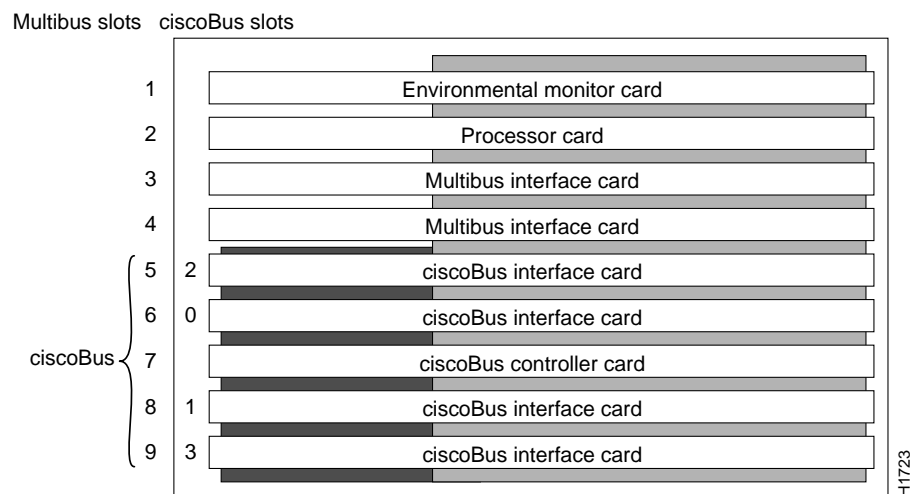

Figure 1 AGS+ Chassis Card Cage—Front View
The CSC-CCTL ciscoBus controller card is located in the center ciscoBus slot (Multibus slot 7) in the AGS+ chassis card cage. (See Figure 1.)
- Ensure that the interface card in question is installed in one of the four ciscoBus interface slots. (See Figure 1.)